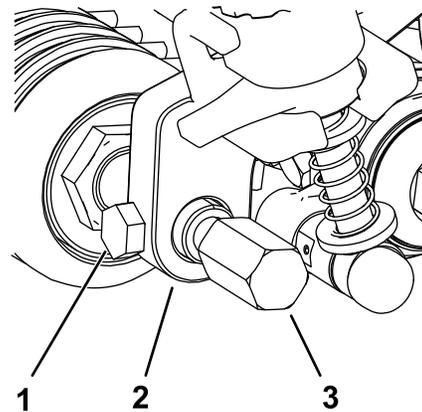

Figure 21
- Insert and center the front roller shaft between the height-of-cut brackets and secure it with the 2 mounting screws removed from the old height-of-cut brackets (Figure 21).
- Attach the groomer guards to either side of the front roller shaft (Figure 21).